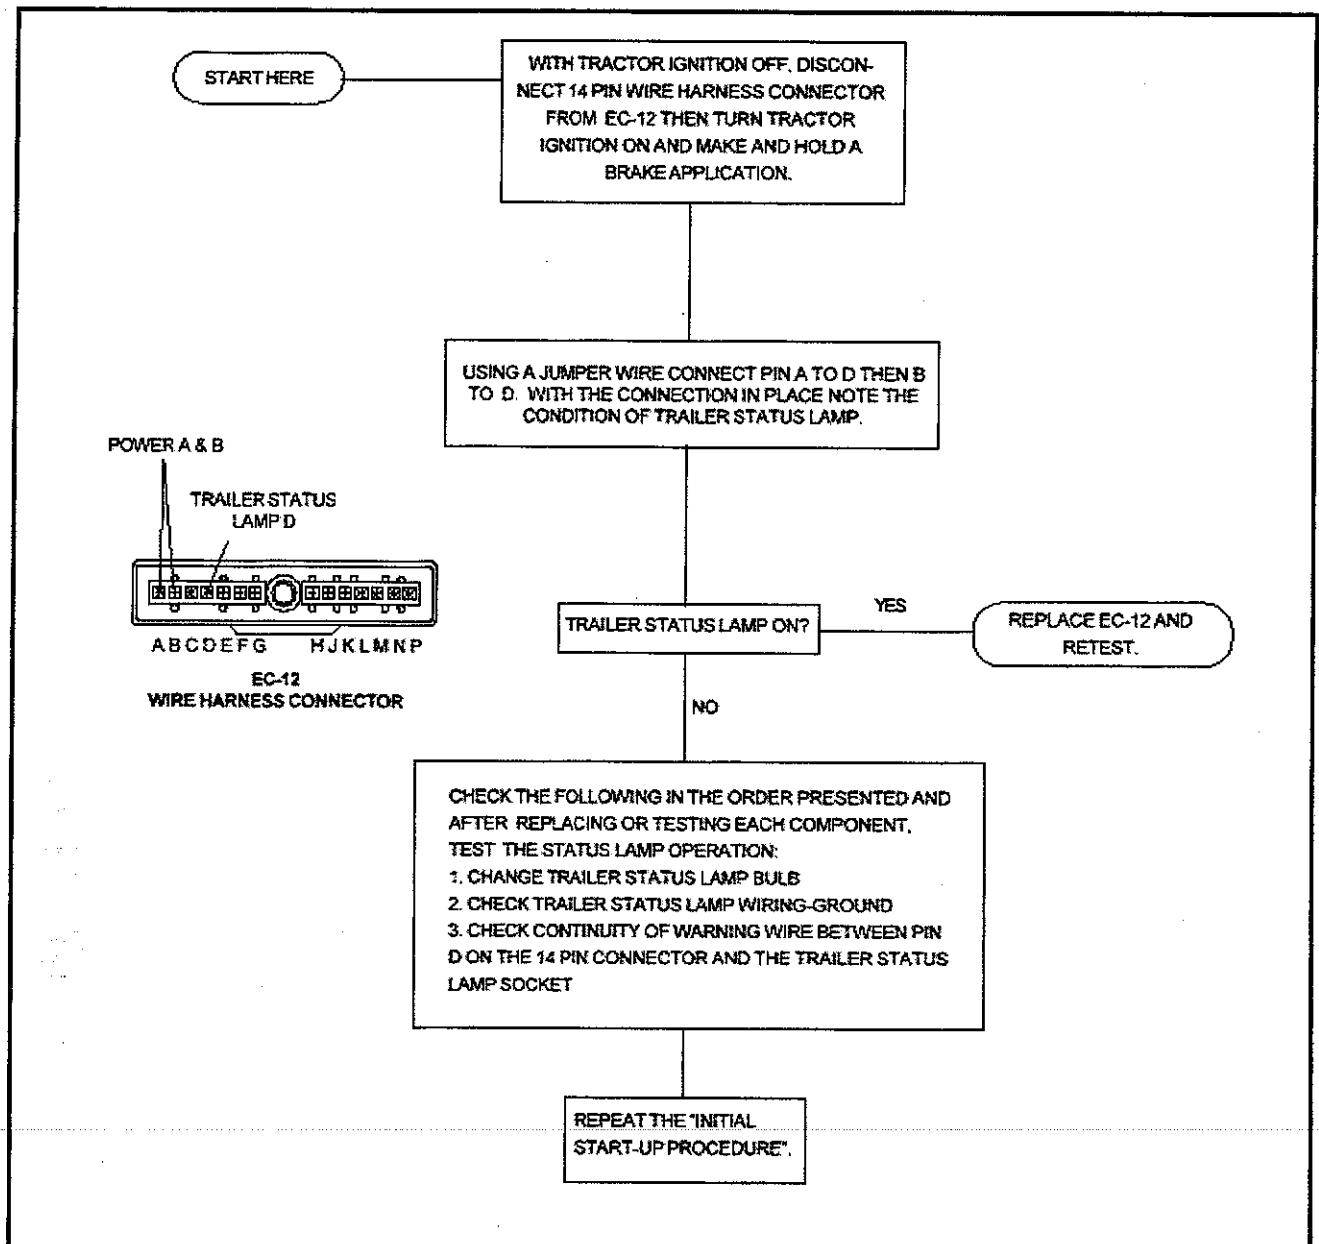

Figure 13—Status Lamp Testing
- See Figure 13—7-Pin Trailer Connector